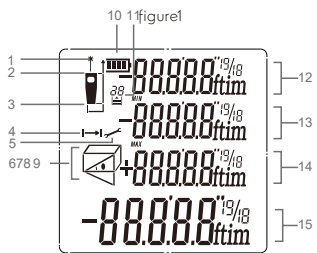

figure 2
• LCD Display (figure 2)
Refer to figure 2. Press  4 times to activate the